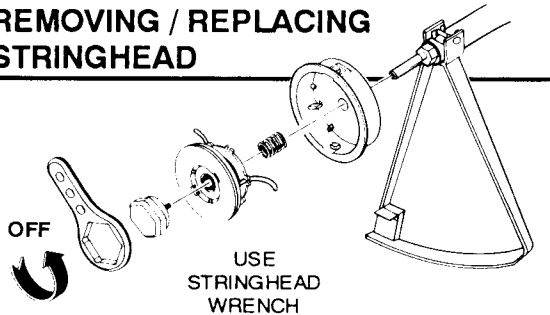

Figure 8-3A
3. Remove the housing. Gently tap back of housing to loosen. (Figure 8-3A)